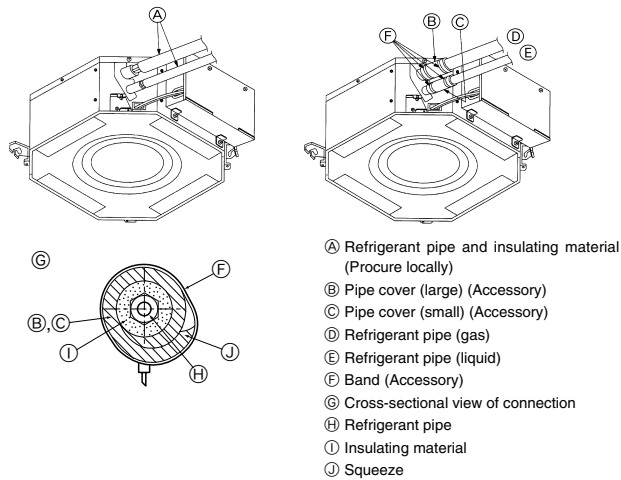

Fig. 5-8
5.4. Pipe connection (Fig. 5-8)